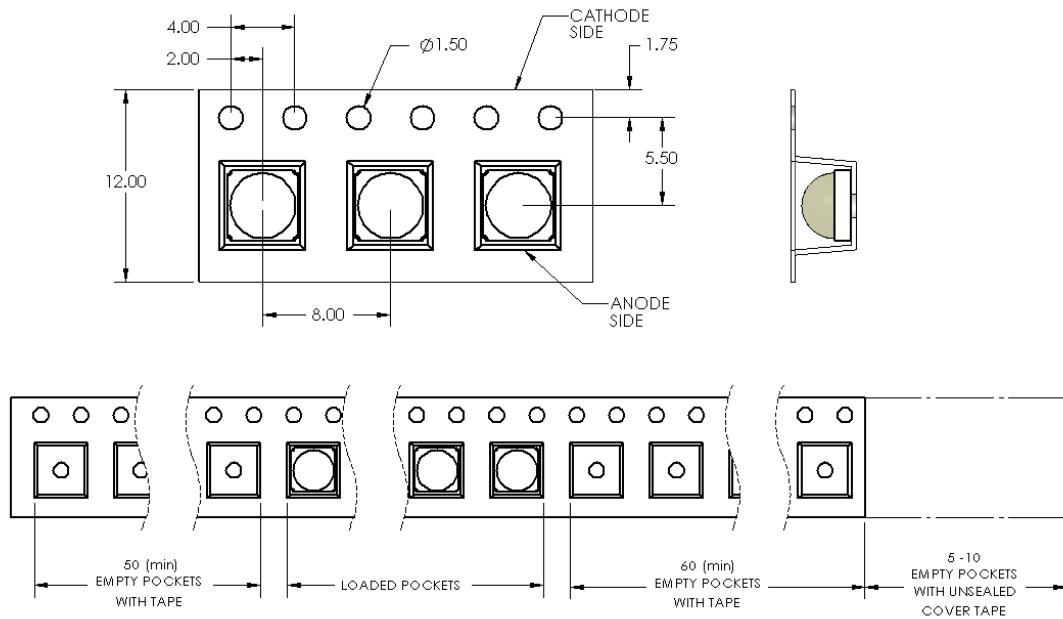

Figure 10: Emitter carrier tape specifications (mm).
1. Maximum DC forward current is determined by the overall thermal resistance and ambient temperature. Follow the curves in Figure 10 for current derating.